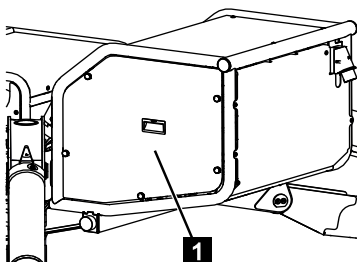

Fig. 188
4. Unscrew the cover (Fig.188/1).